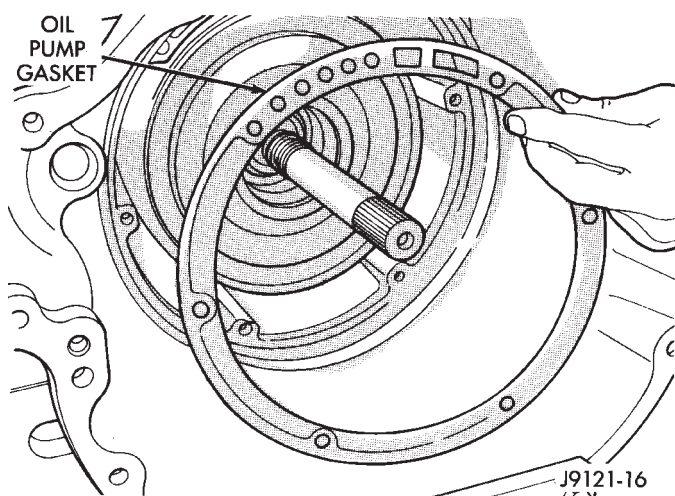

Fig. 21 Removing Oil Pump Gasket—46RH
(20) Remove oil pump gasket (Fig. 21). Note gasket position in case for assembly reference.